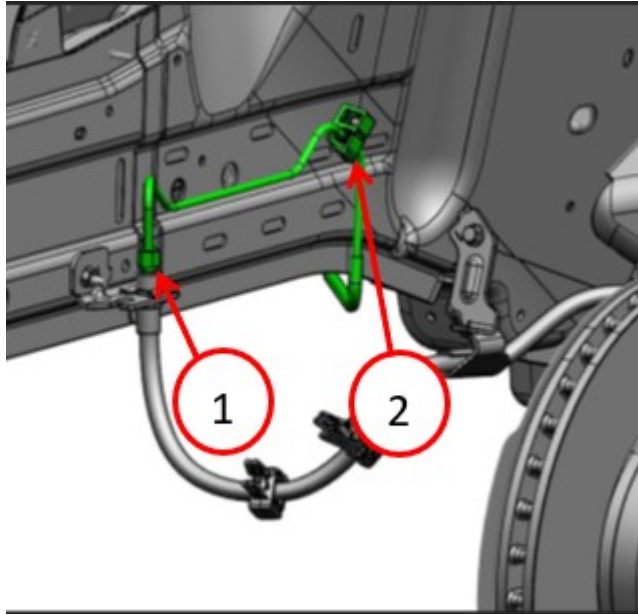

Fig. 1
8. Unthread brake line fittings and release retainer from the brake flex hose on the left side (Fig. 1) .